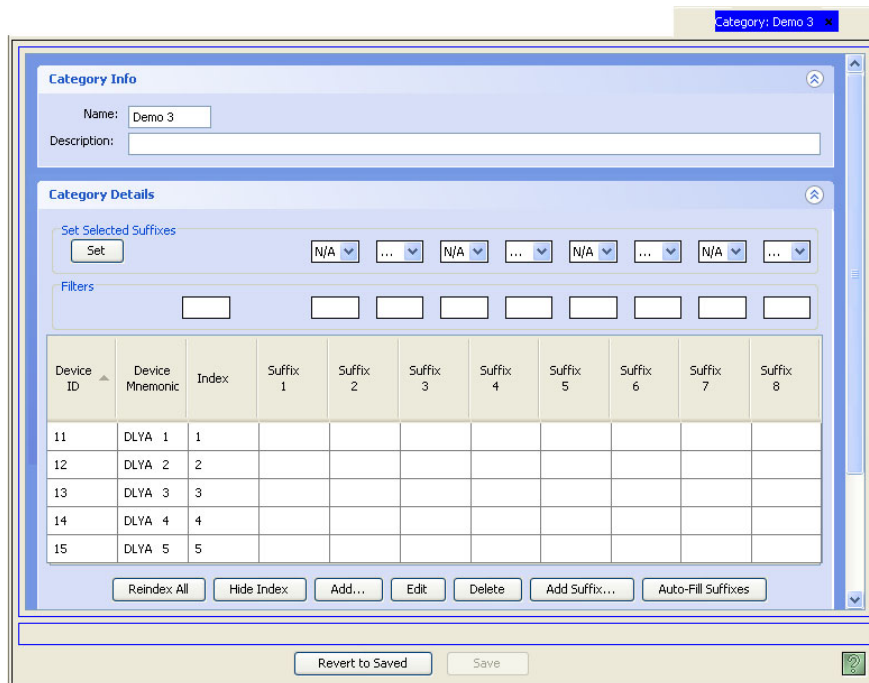

Figure 10-26. Category Details Page
- 2 Double-click on a single row to open details for that category. The 'Category Details' page appears, as shown in Figure 10-26.